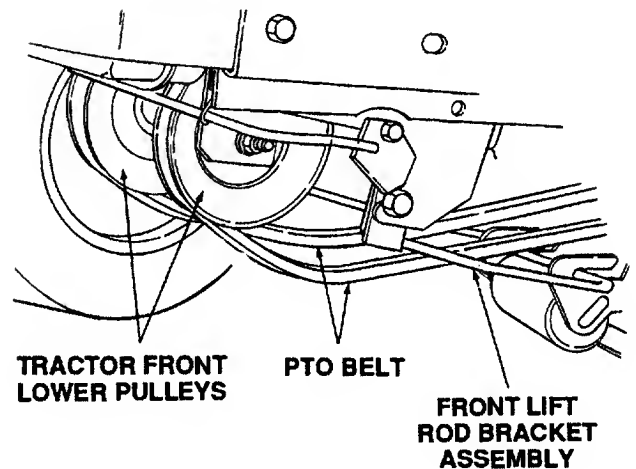

Figure 56
14. Twist the PTO belt 1/4 turn to engage the narrow sides of the belt into the grooves of the two tractor front-lower pulleys (Refer to Figure 56).